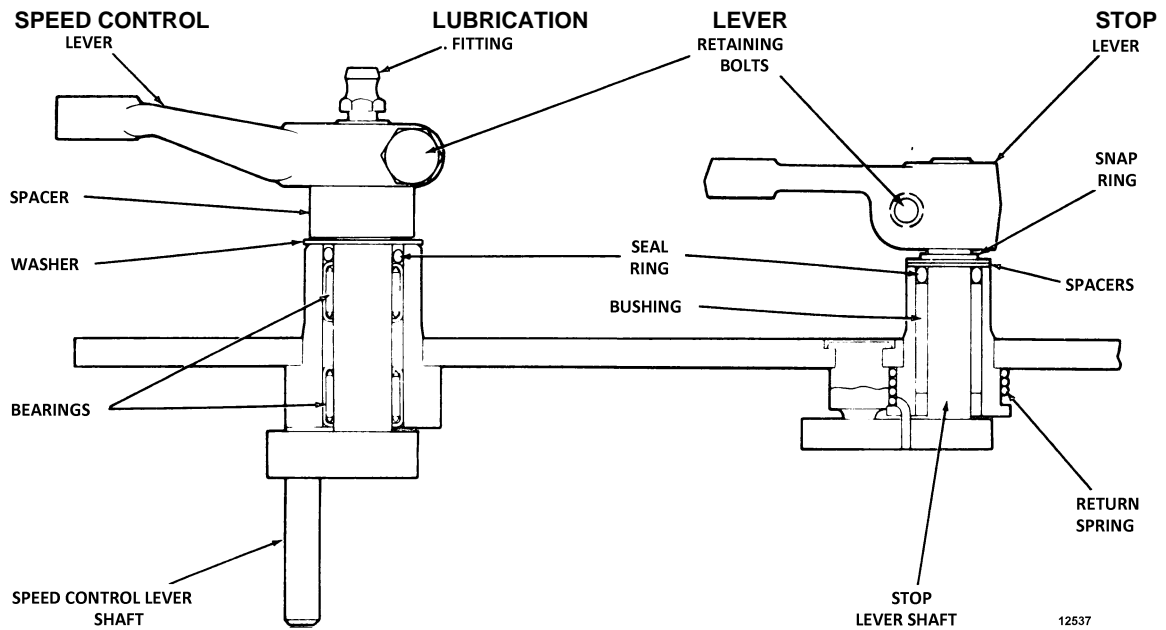

Fig. 4 - Cross Section of Governor Cover
1. Disassemble the governor cover assembly (Fig. 4) as follows: